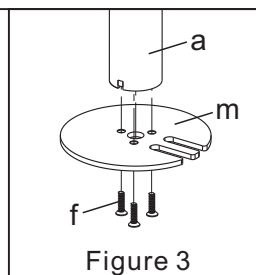

Figure 3
1. Install the Grommet Base Plate(m) to the Pole(a) using 3pcs M5x14 Bolts(f), and tighten using the Allen Key(o), see Figure 3.